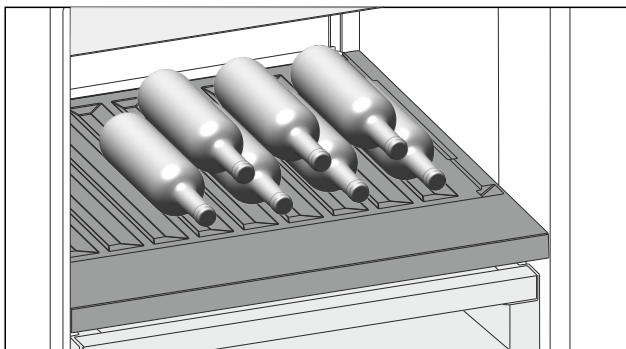

Fig. 114
- ▶ Place bottles in the back row with their bases against the back wall. (see Fig. 114)